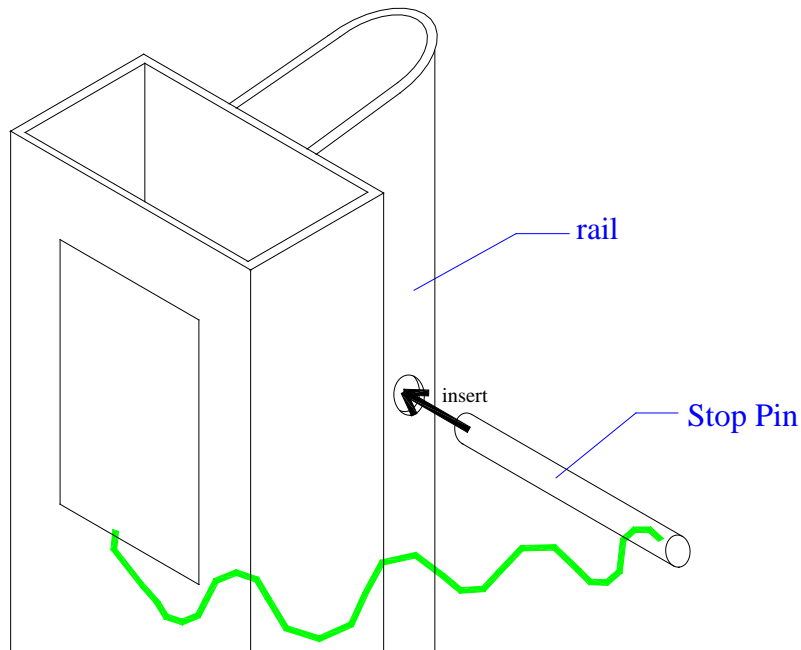

Figure 7
4. Insert the “Stop Pin” into the column/rail (see figure 7 below). *note: do not remove from chain*